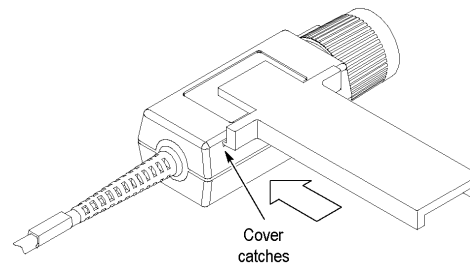

Figure 20: Removing the Compensation Box Covers
1. Press the optional release tool pins into the compensation box cover catches and gently lift the cover off a small distance. (See Figure 20.)